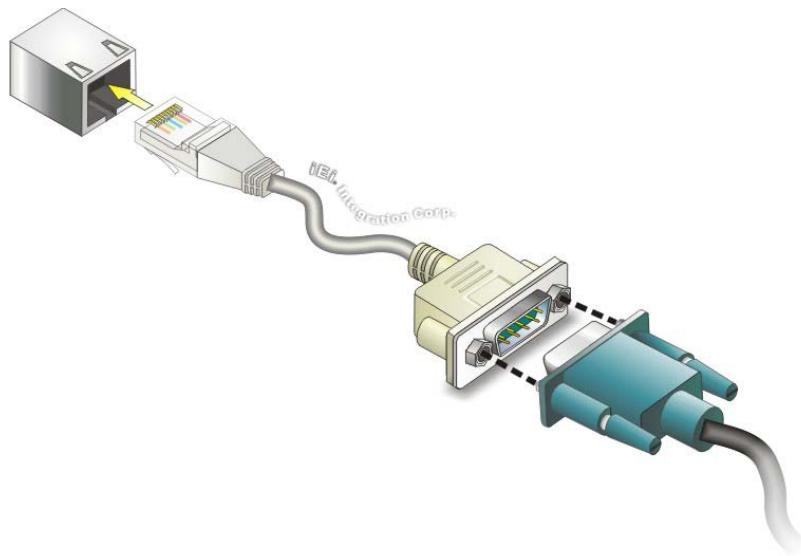

Figure 3-15: RJ-45 RS-232 Serial Device Connection
Step 2: Insert the RJ-45 connector. Insert the RJ-45 connector on the RJ-45 to DB-9 COM port cable to one of the RJ-45 RS-232 connectors on the TANK-870-Q170 Series. See **Figure 3-15**.